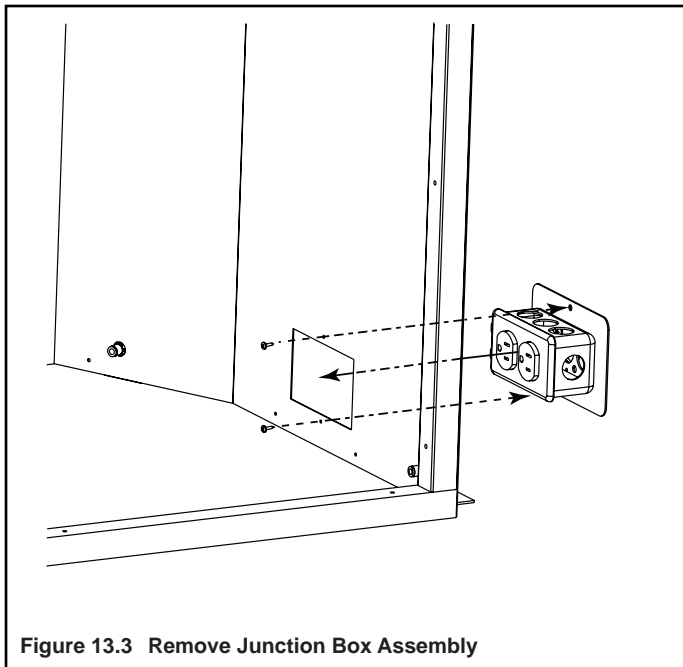

Figure 13.3 Remove Junction Box Assembly
- Insert junction box and receptacle assembly through hole in outer shell (see Figure 13.3) and fasten with two screws.